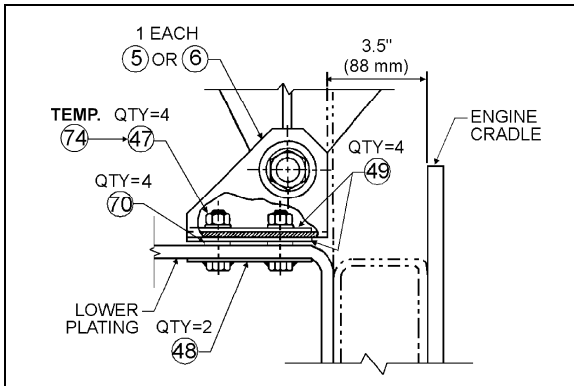

FIGURE 16: ANGLE SUPPORT 05014
1. Install both attachment assembly plates (P/N 051779) (48, Fig. 16) through lower plating and secure with four spring nuts (P/N 500666), (70, Fig. 16). Then install one spacer (P/N 050705), (49, Fig. 16) on each spring nut at both anchoring locations (Fig. 16).
2. Center seat assembly in the fan shroud using the horizontal displacement of the fan driving mechanism support. Center with the slots in the floor at anchoring angle support (on some vehicles only). Vertical displacement of the fan clutch is made possible by slots at the base of the fan clutch (on some vehicles only) or by shimming with additional spacers at anchoring locations. Temporarily secure assembly with two nuts (P/N 500709), (74, Fig. 16) at both anchoring locations.
5. Check alignments again (steps 3, 4 & 5) then replace temporary anchoring nuts (P/N 500709) (74, Fig. 16) with four nuts (P/N 500714) (47, Fig. 16) and wrench tighten.